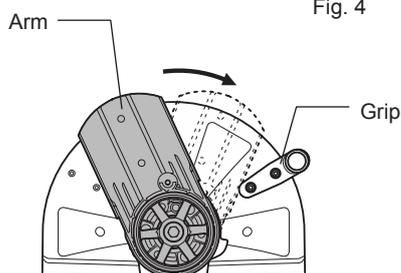

Fig. 4
- Rotate the arm until it contacts the grip and return the lock shaft to the original position by hand. (Fig. 4)